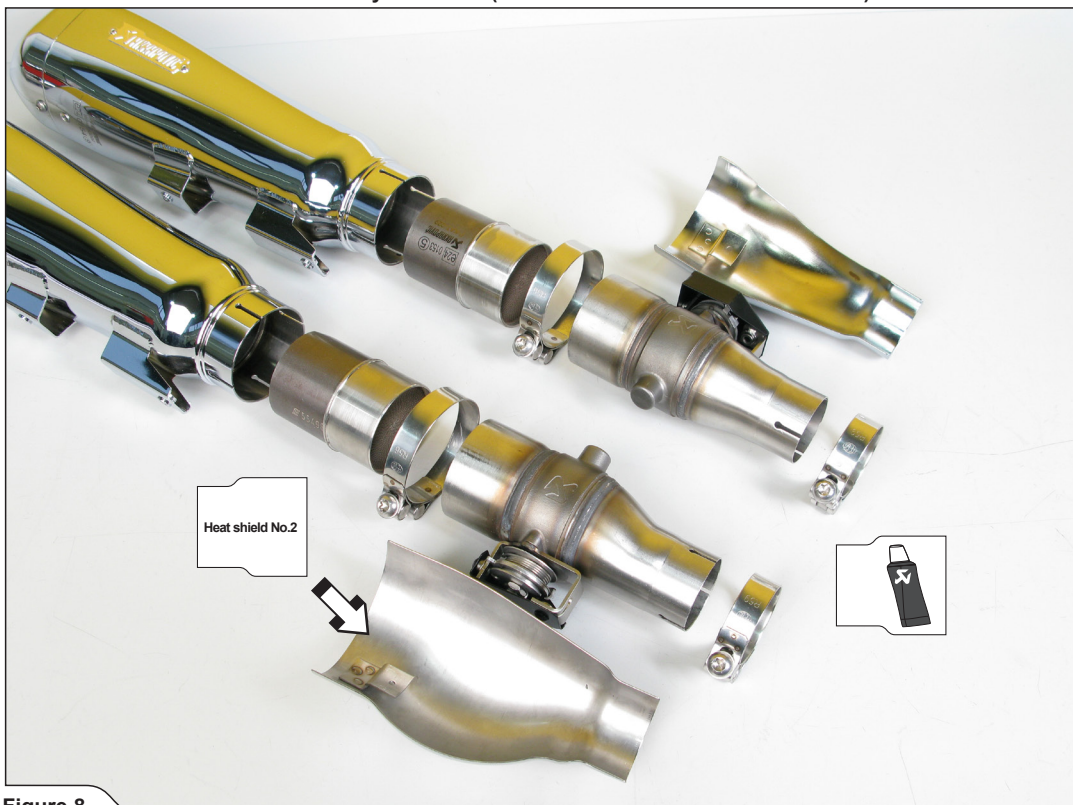

Figure 8
6. Correctly assemble the mufflers, catalytic converters (optional), link pipes, clamps and heat shields (Figure 8, 9, 10).